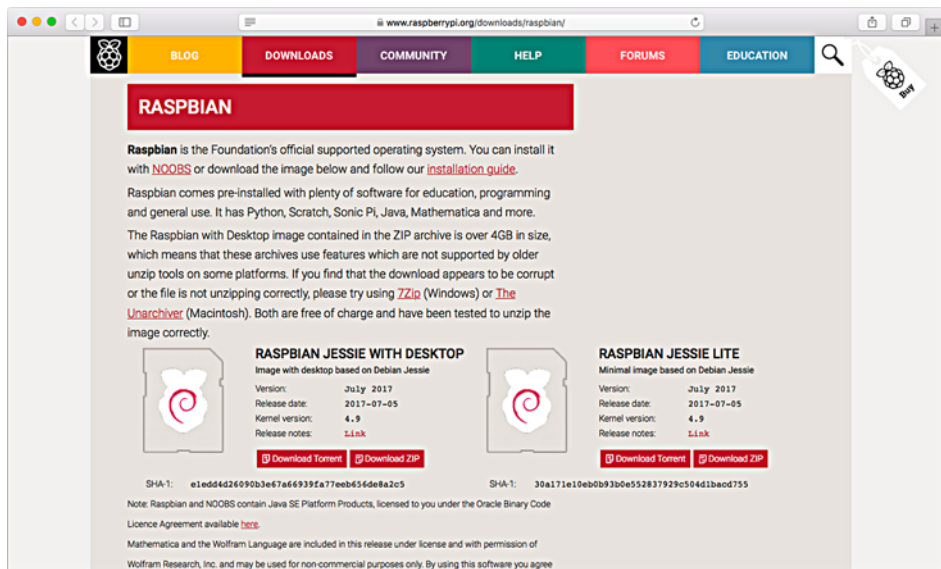

Figure 11.6 Download the full version of Raspbian from Raspberry Pi's Raspbian download page.
- 1 Download Raspbian (not NOOBS) from the Raspbian download page ([www.raspberrypi.org/downloads/raspbian/](http://www.raspberrypi.org/downloads/raspbian/)) (figure 11.6).
**BIG, HONKING RASPBIAN ZIP FILE** As noted on the Raspbian download page (figure 11.6), the resulting zip file is big, and your default unzip utility may not be up to the task of unzipping it (mine wasn't). As suggested there, try The Unarchiver for Mac or 7Zip for Windows if you run into problems.